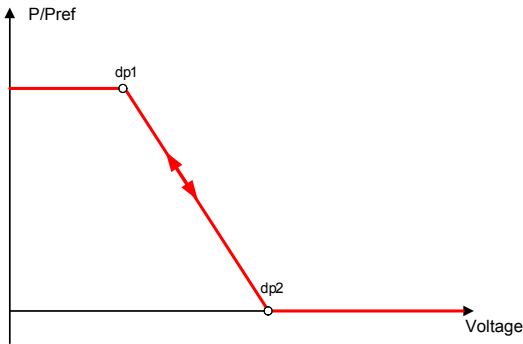

Fig. 72: P(U) example characteristic without hysteresis
Hysteresis On: The active power is adjusted in line with the set P(U) characteristic curve [See figure 72] [► Page 74] and the current voltage in the event of increasing voltage. In the case of decreasing voltage, the power level is kept constant until the voltage value of the first node cannot be reached.